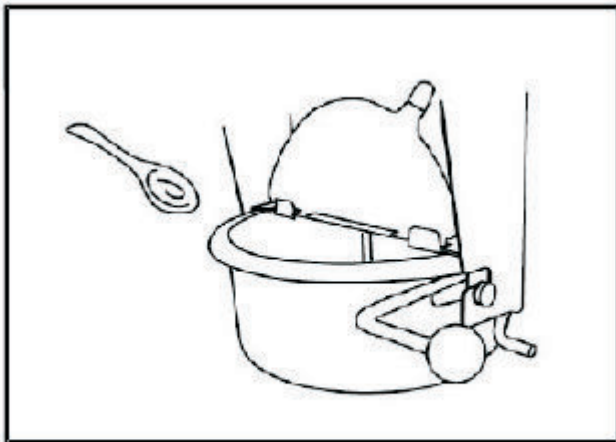

Fig. 1
5. Switch the light and heater to ON (I & III) and then add a suitable amount of butter or oil (Fig. 1). While the amount is dependent upon your taste, please do not exceed 1/2oz.